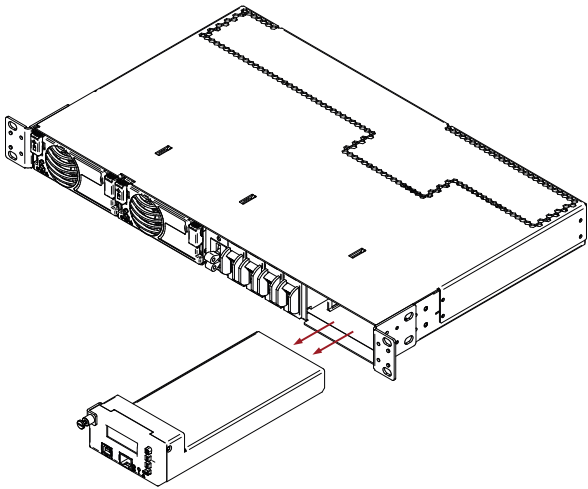

Figure 7-2 Removing the Controller
2. Pull the controller out of the shelf as shown in Figure 7-2.